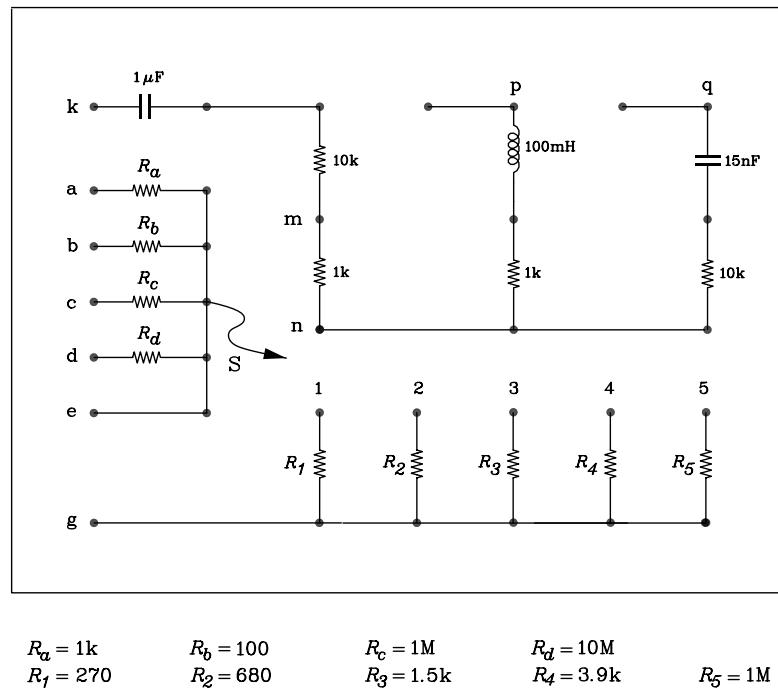

Figure 1: Experimental set-up
All components used in this experiment are mounted on a circuit board, shown schematically in Figure 1.
- (1) Use the digital multimeter (DMM) to measure each of the resistances R_a to R_d and R_1 to R_5 on the circuit board provided (see Figure 1). Record, in an appropriate table, the measured values together with their nominal values, determined from the colour code of each resistor.